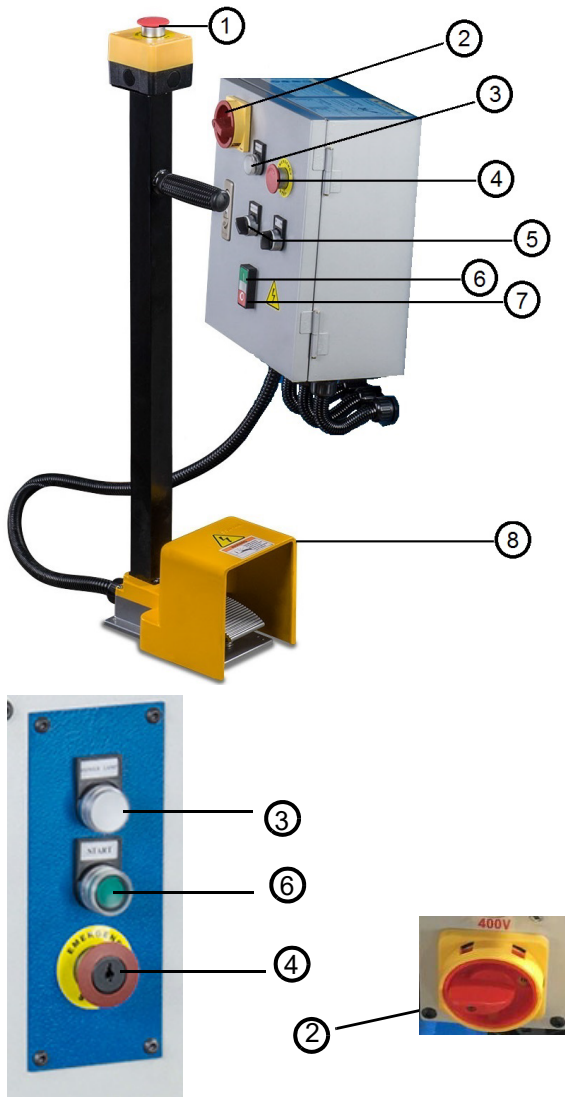

Fig. 29: Control panels AKM 220-4 (top), AKM 220-6 (bottom)
Step 7: Press button (Pos. 6, Fig. 29). The hydraulics are in operation.
Set the switch (Pos. 5, Fig. 29) to the right position, the lamp lights up.
As long as the foot pedal (Pos. 8, Fig. 29) is pressed, the top bar moves down and stops when the bottom limit switch is touched. The lamp goes out.
Set the switch (Pos. 5, Fig. 29) to the left position, the lamp lights up. As long as pedal (Pos. 8, Fig. 29) is pressed, the top bar moves down and stops as soon as the bottom limit switch is touched. The machine stops cutting and the top bar returns to the top position. .
**Important:** Press the EMERGENCY OFF button (Pos. 1, Fig. 29) in case of the danger. The movement of the top beam stops and the top beam automatically returns to the top position.